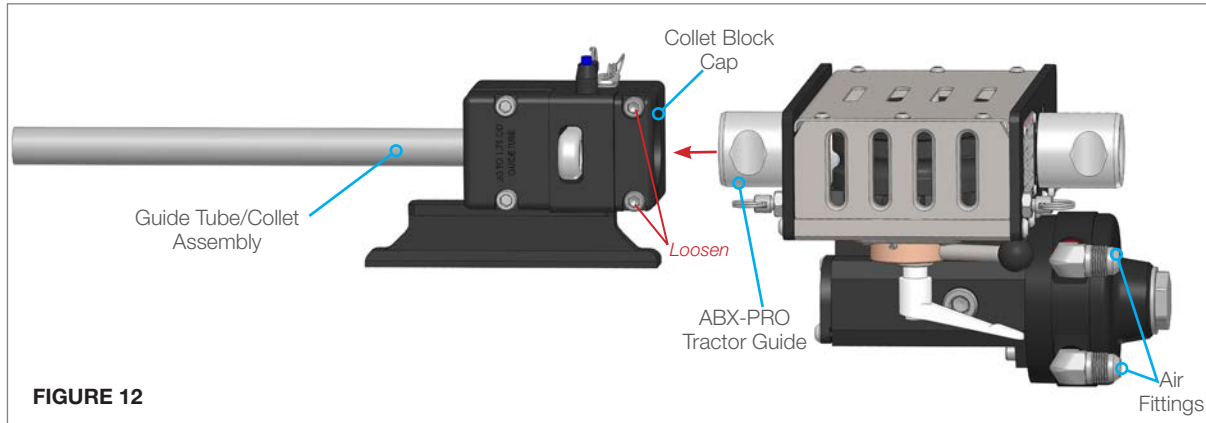

FIGURE 12
17. Slide the ABX-PRO Tractor Guide into the Collet Block until it comes to a stop. The Air Fittings on the ABX-PRO Tractor should be oriented away from the Collet Block. (Figure 12)